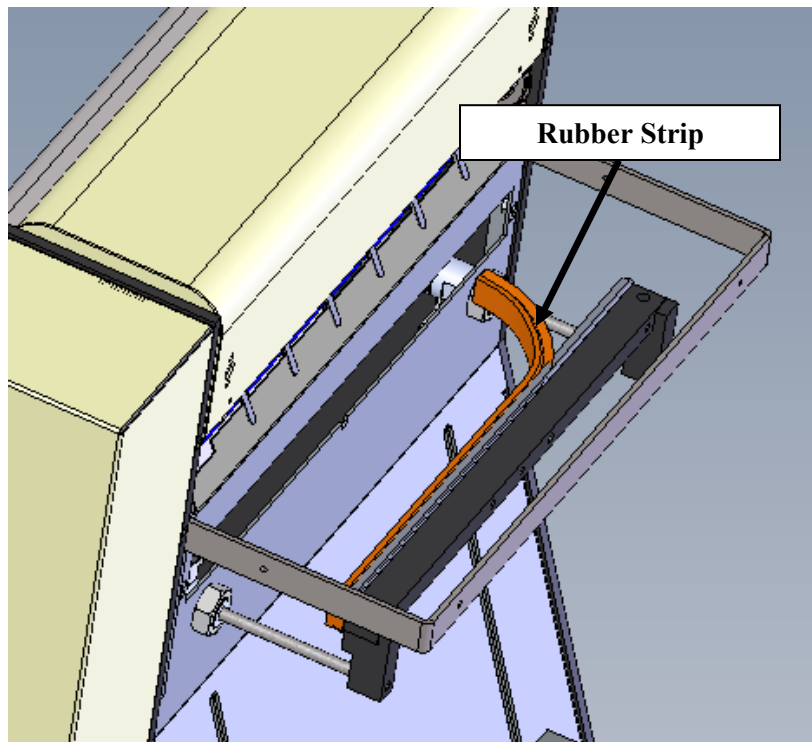

Figure 4-1
2. Remove the worn rubber pad by pulling from the end corner of the rubber strip. Once started, the rubber will easily slide out from the metal pressure strip housing. See Figure 4-1.